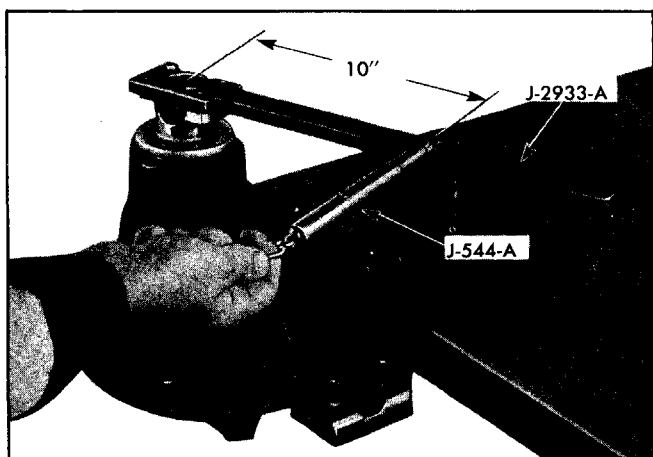

Fig. 4-42 Checking Pinion Bearing Preload With Scale J-544-A
**NOTE:** Torque measurement may be taken using steering gear adjusting spring scale J-544-A hooked to Holding Tool J-2933-A at a point 10" from pinion shaft center (Fig. 4-42). Reading in pounds times 10 will give pound-inches; thus three pounds on spring scale will indicate thirty pound-inches. Readings between pound graduations must be read in tenths rather than in ounces, for example, 3 pounds 8 ounces is read 3.5 pounds or 35 pound-inches.